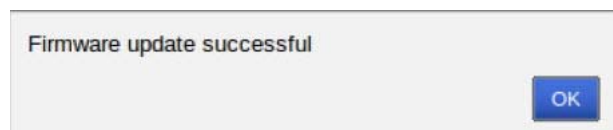

FIG. 24 Firmware Update Successful
- Upon completion of the firmware update process, a pop-up dialog will be displayed with the status of the update (FIG. 24). Upon success, you may have to refresh and/or login to the web page again.